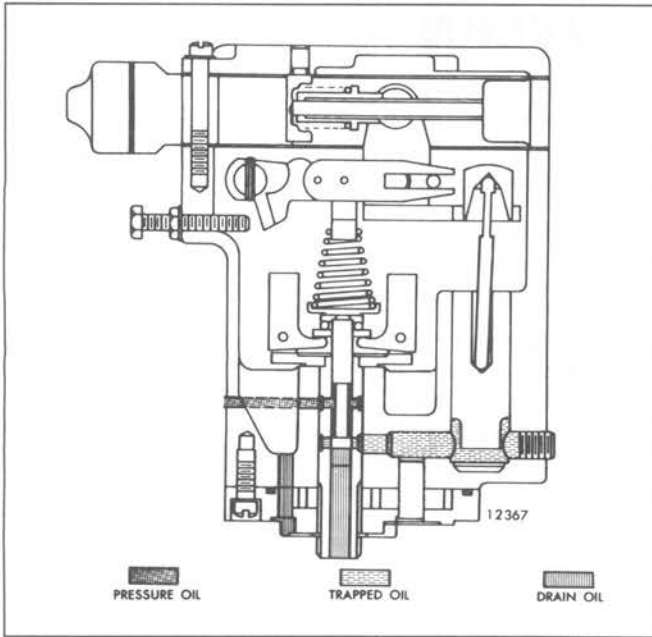

Fig. 2 – Position of Governor Mechanism when Load is Constant
12. Refer to Fig. 2 for the location of the stop lever return spring special screw. Then install the eight governor cover attaching screws and lock washers. Tighten the screws securely.
13. With the hooked end of the stop lever return spring in position on the lever, place the extending end of the spring behind the special cover attaching screw as shown in Fig. 2.
14. Attach the booster spring to the speed control lever and tighten the outer booster spring adjusting nut on the eyebolt (Fig. 2).
The injector control tubes are actuated by the governor through a linkage consisting of the fuel rods, vertical link, and levers, connected as shown in Fig. 2 in Section 2.8.3.
With the engine operating, oil from the engine lubrication system is admitted to the space around the oil pump gears. The gears raise the oil pressure to a value determined by the relief valve plunger spring which opposes the relief valve plunger. The oil pressure is maintained in the annular space between the undercut portion of the pilot valve plunger and the bore in the ball head as shown in Fig. 2.
For any given throttle setting, the speeder spring has a definite compressional force which is opposed by the centrifugal force of the revolving flyweights. When the two forces are equal, the land on the pilot valve plunger covers the lower opening in the ball head, producing a constant speed condition as shown in Fig. 2.